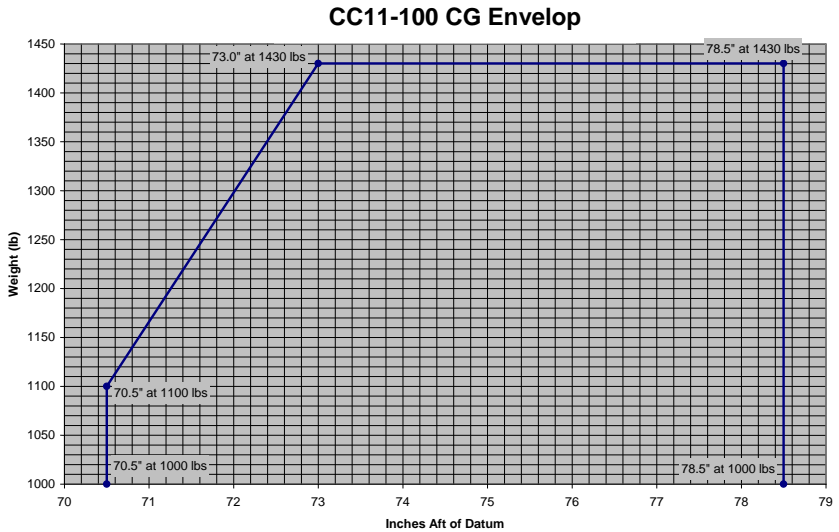

Figure 9-1-2 - Weight and Balance Envelope with Floats
6. Plot the point on Figure 9-1-2. If it is within the weight and balance envelope, the aircraft is within the approved envelope.